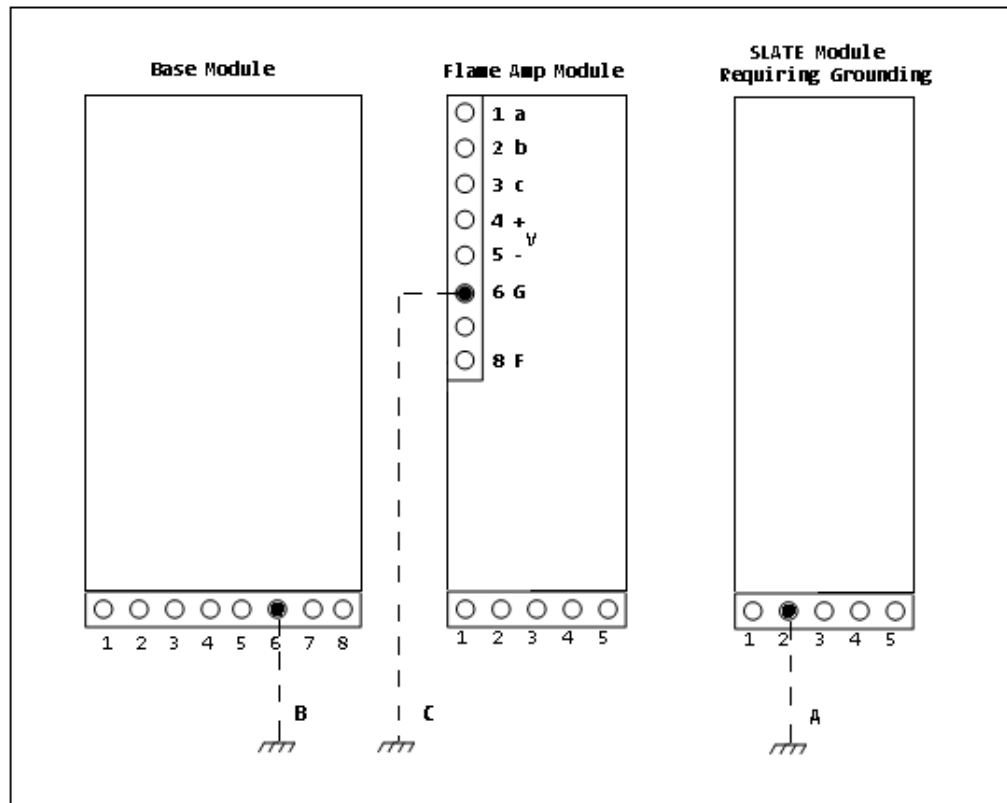

Figure 1: General Grounding Options
Unless application specifics preclude it, it is advisable to reference the SLATE system power supply to Earth ground by attaching a wire from terminal 2 on the sub-base I/O connector of any module to Earth ground (See Figure 1-A), or alternatively connecting terminal 6 on the Base Module I/O connector to earth ground (See Figure 1-B), or terminal 6 (G) on the Flame Amplifier module to earth ground (See Figure 1-C).